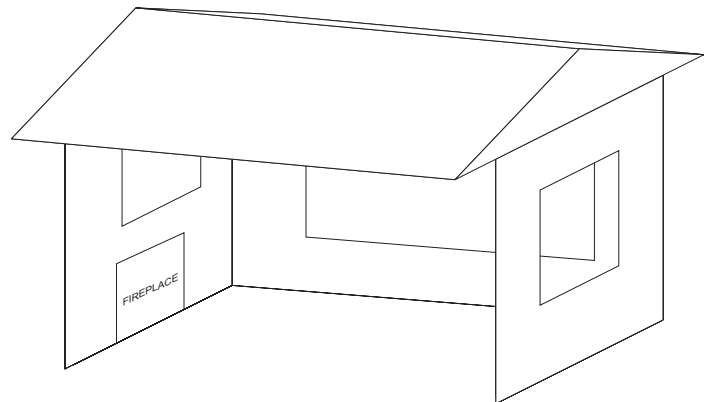

Figure 6
- This partial enclosure includes an overhead cover and three walls, no more than 30% or more of the horizontal periphery (i.e. perimeter) of the enclosure permanently open. These openings cannot be screened or have operable windows or shutters. **See Figure 6.**